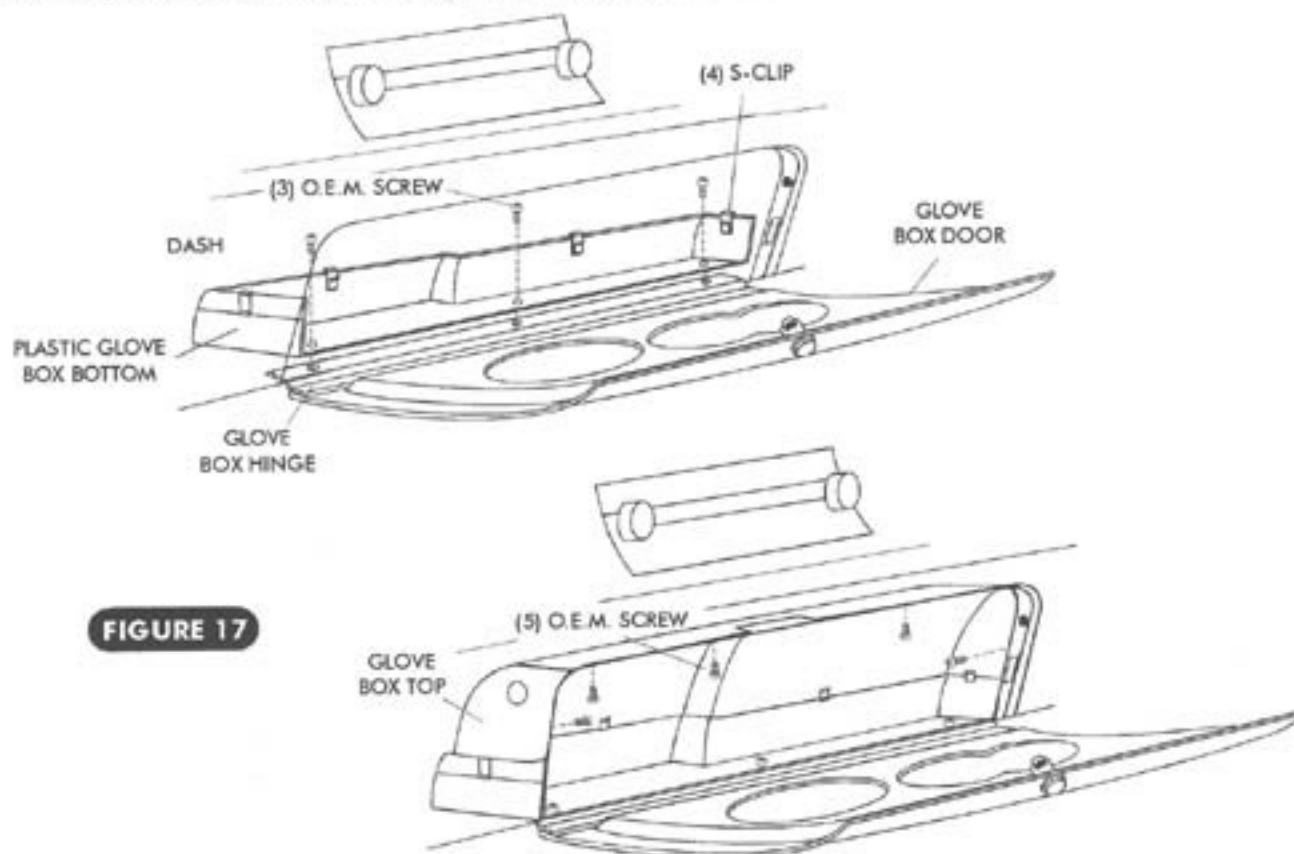

FIGURE 17
- ☐ INSTALL GLOVE BOX BOTTOM AND GLOVE BOX DOOR, SECURE TO DASH WITH (3) O.E.M. SCREWS. SEE FIGURE 17, BELOW.
- ☐ WITH GLOVE BOX BOTTOM AND DOOR IN PLACE, INSTALL GLOVE BOX TOP TO THE S-CLIPS ON THE GLOVE BOX BOTTOM, AND SECURE TOP TO DASH WITH (5) O.E.M. SCREWS. SEE FIGURE 17 BELOW.